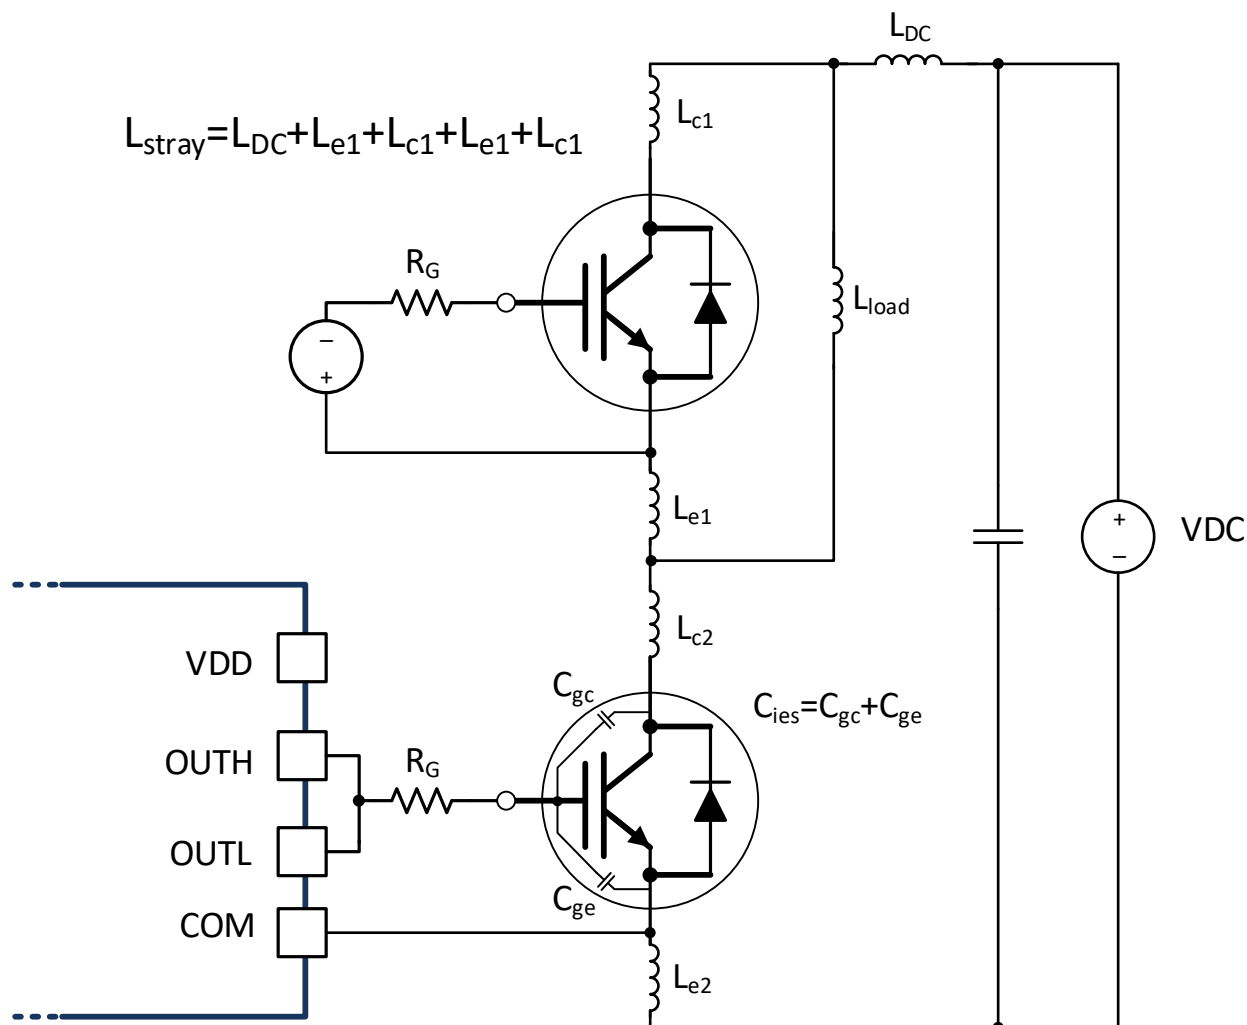

Figure 9-6. Stray Parasitic Inductance of IGBTs in a Half-Bridge Configuration
- L_{stray} is the stray inductance in the power switching loop, as shown in Figure 9-6.